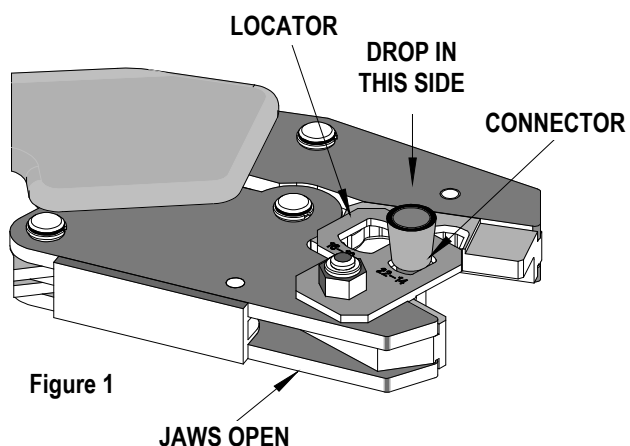

Figure 1
1. Hold hand tool with the locator facing up. Insert the closed end connector in the correct slot (14-22 or 10-16). Make sure that the shoulder of the connector is resting on the locator plate. See Figure 1.